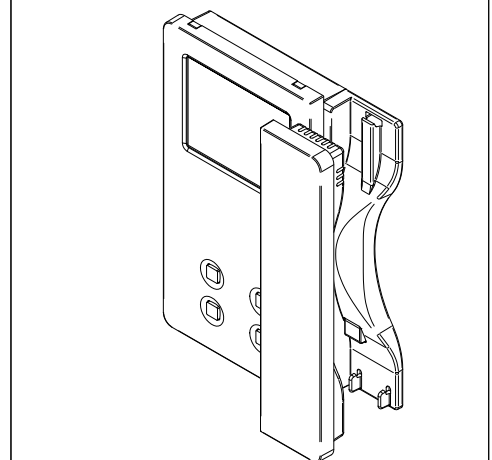

Fig. 6 -
6. Reconnect the handset and hang it as shown in **Fig. 6**.